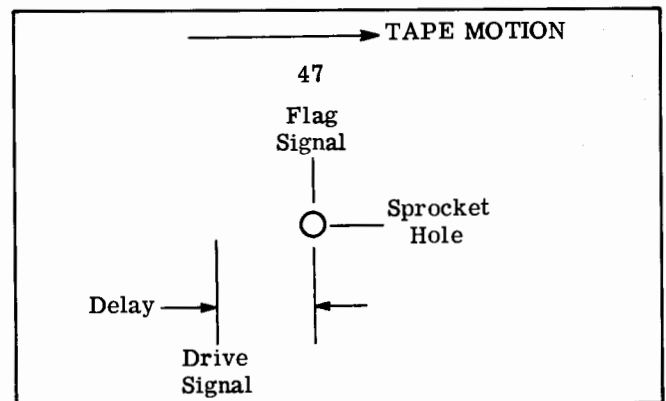

Figure 2. Data-to-Drive Signal Delays
24. The configuration for each data record on the standard test tape is listed in table 2. The data-to-drive signal delays indicated in table 2 check the response time of the tape reader. The delays are inserted between the receipt of data (flag signal) and the issuance of a drive signal to advance the tape to the next row of data holes. (See figure 2.)